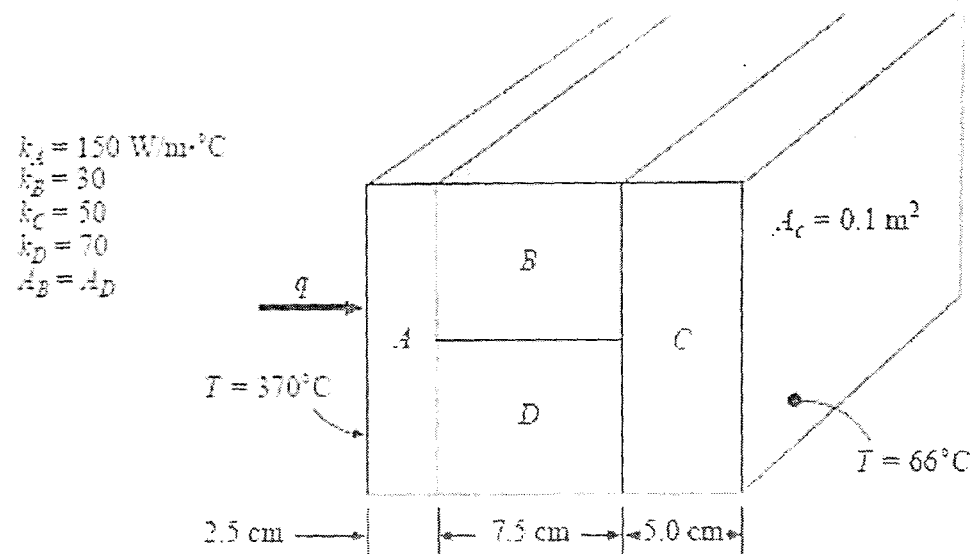

Fig. 1
1. It is required to calculate the heat flux through the composite wall shown in Fig. 1. Discuss if the assumption of one-dimensional heat flow is justified for the calculation. (2)